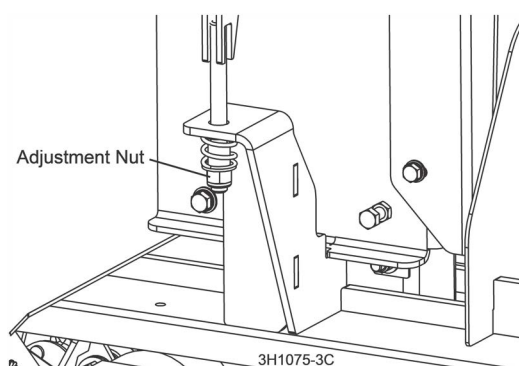

FIG. 5-7
1. Adjust the up/down chain tension as needed. **See Fig. 5-7.**